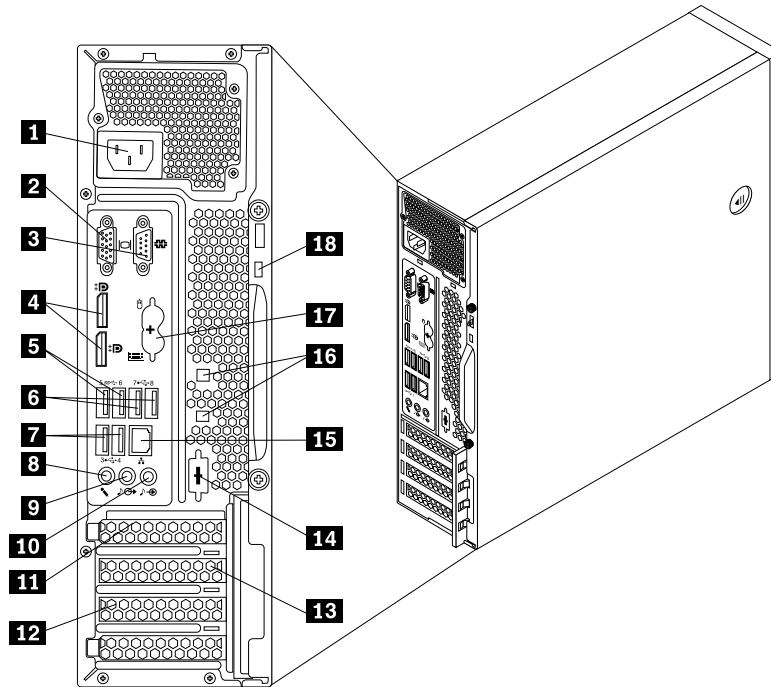

Figure 10. ThinkCentre M83 rear connector locations
- Figure 10 “ThinkCentre M83 rear connector locations” on page 78 shows the locations of the connectors on the rear of the ThinkCentre M83 computer. Some connectors on the rear of your computer are color-coded to help you determine where to connect the cables on your computer.